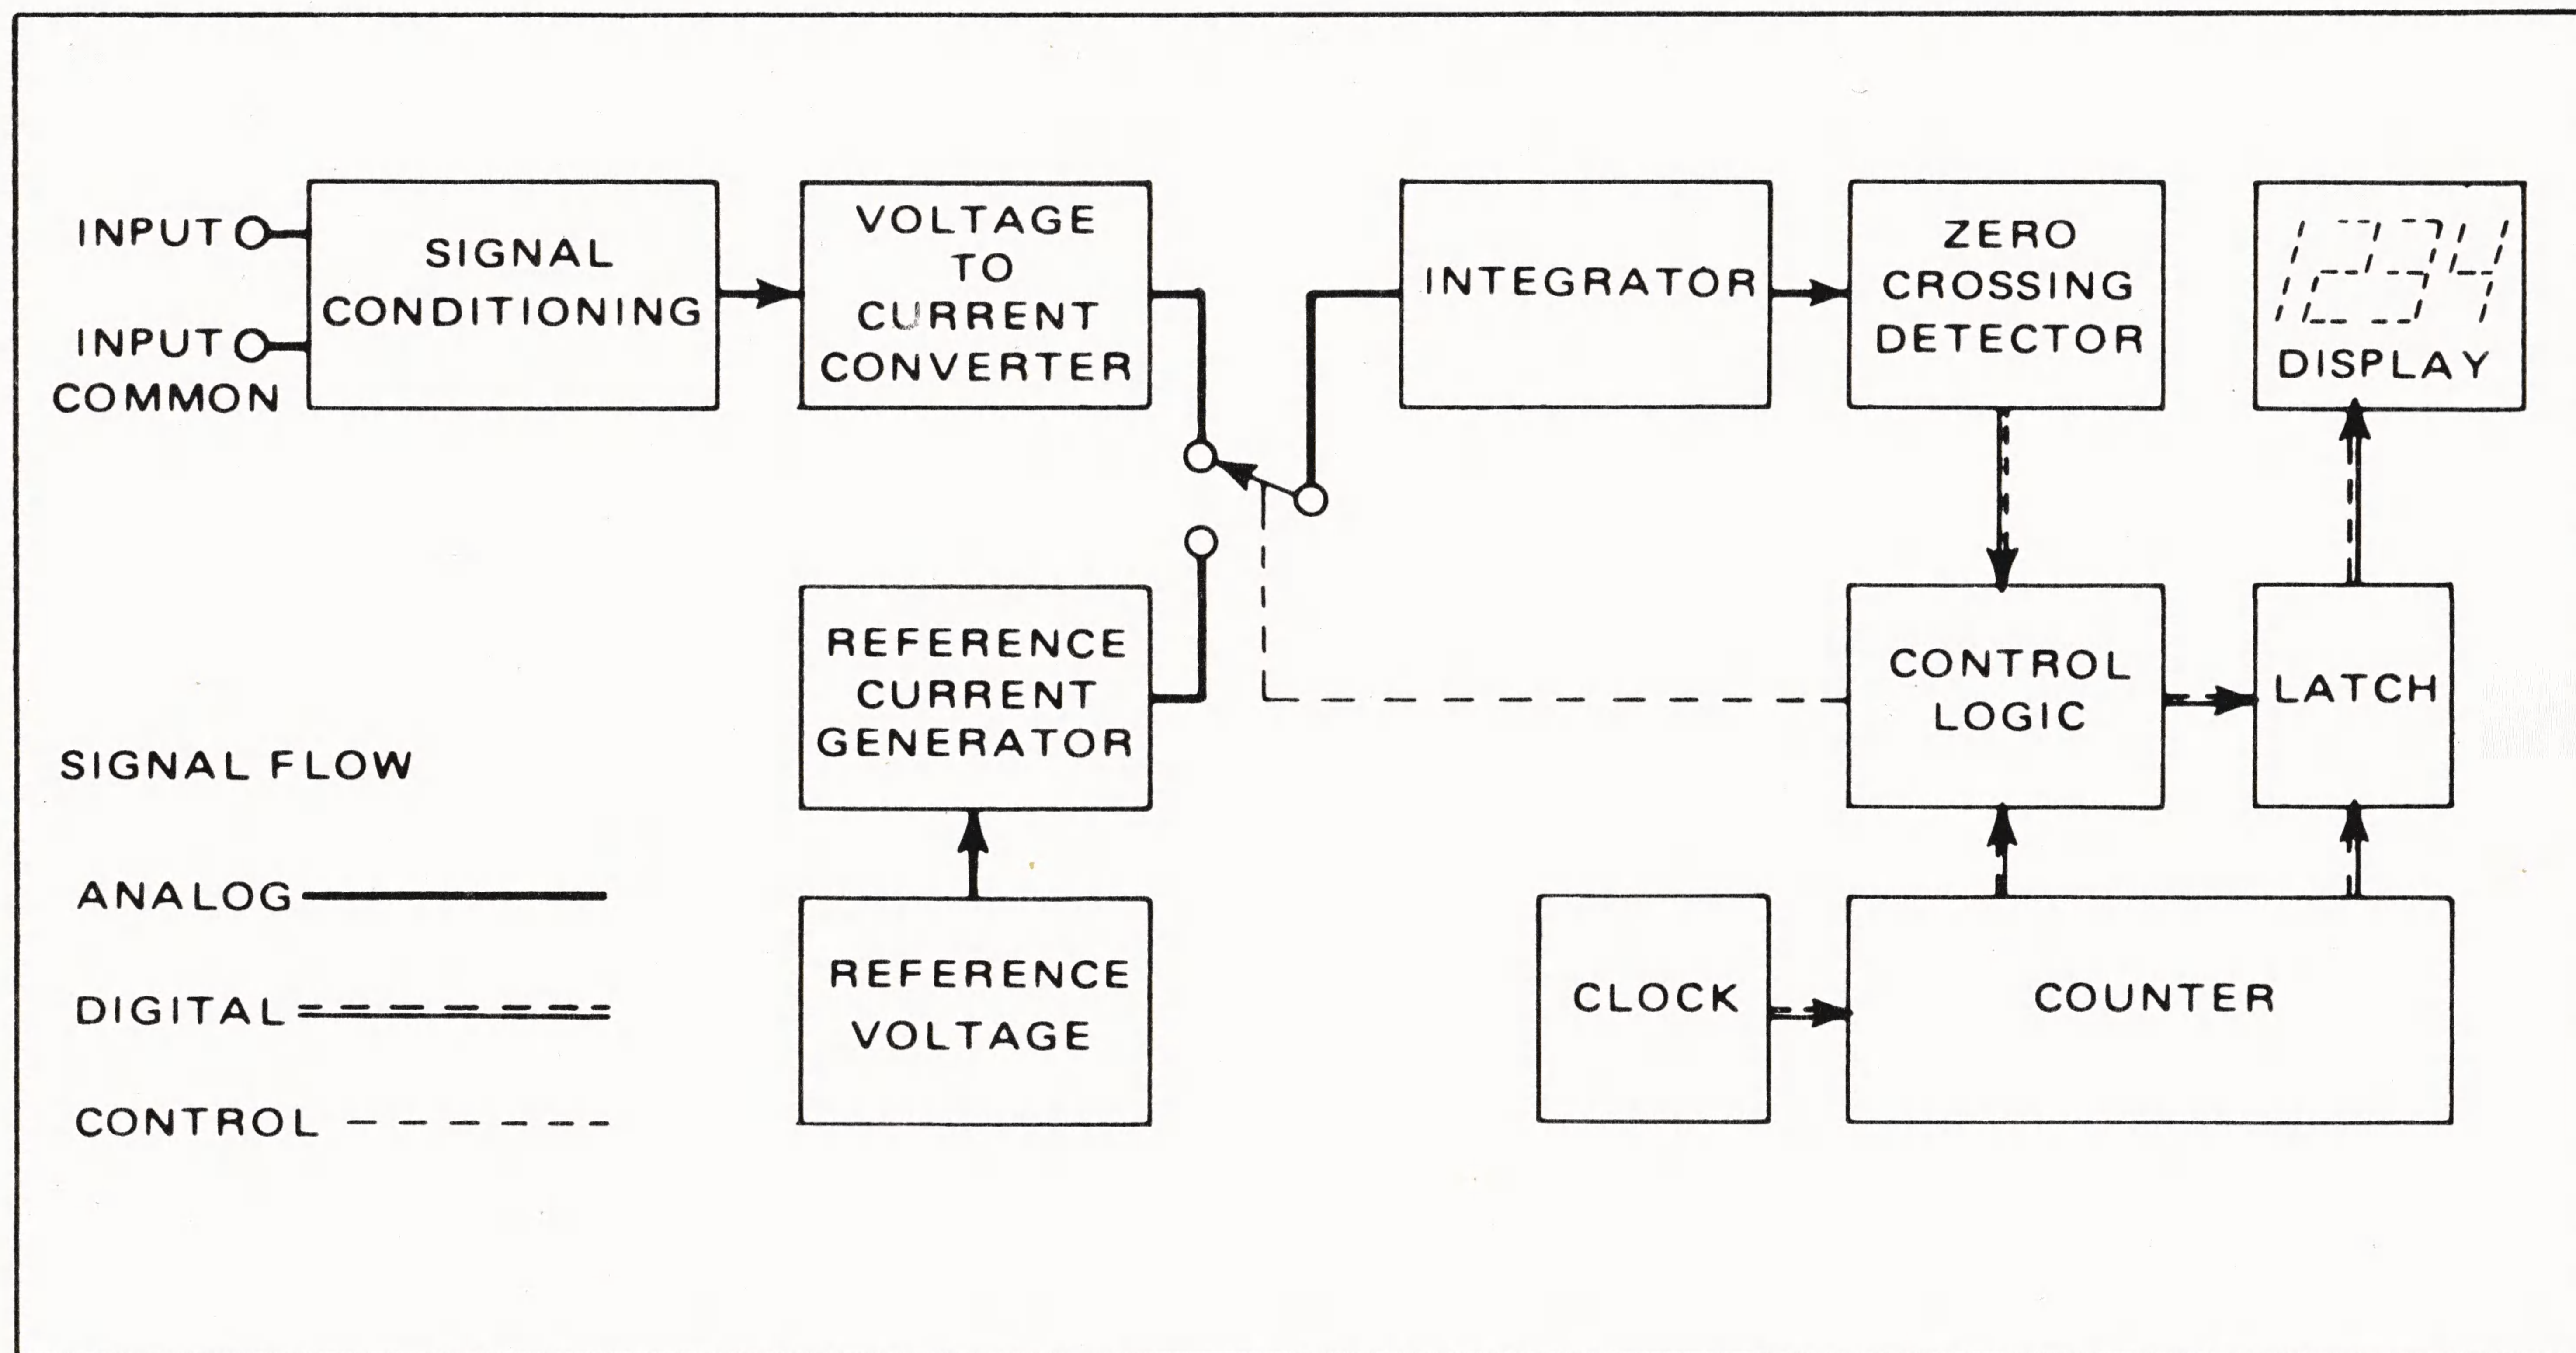

Figure 3.1 - Danameter Simplified Drawing
3.3 The following discussion serves to identify and describe the major portions of the circuitry used in the instrument, shown simplified in figure 3.1.